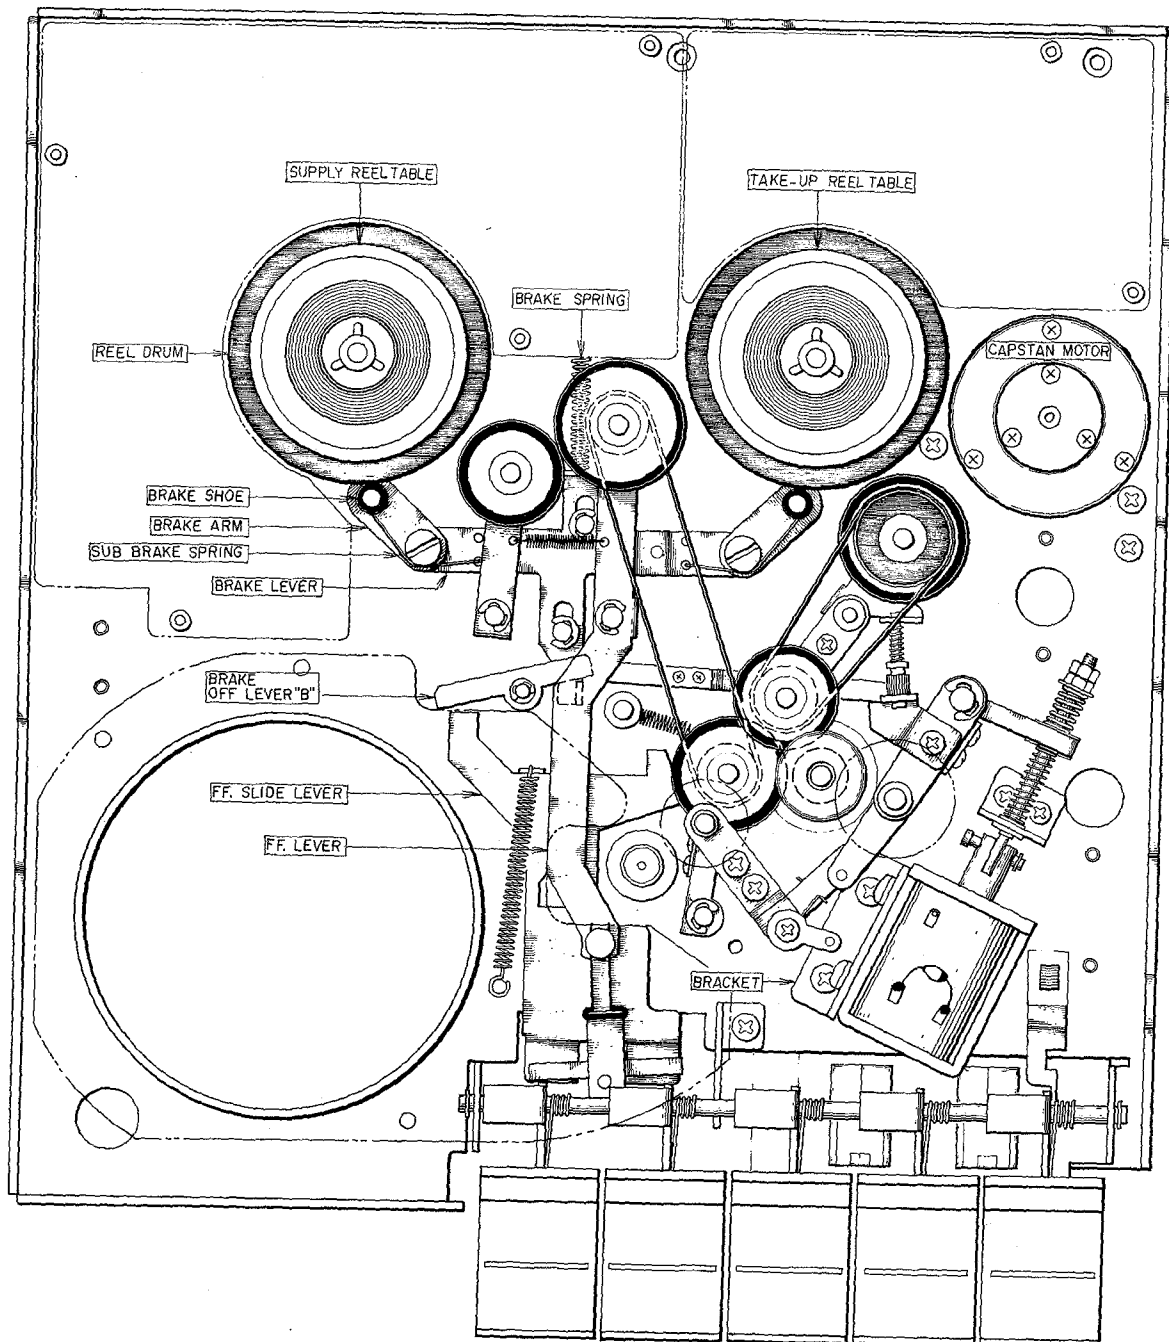

Fig. 1-28 Stop Mode
(1) Fundamental Adjustments (Ref. figs. 1-28 and 1-29)